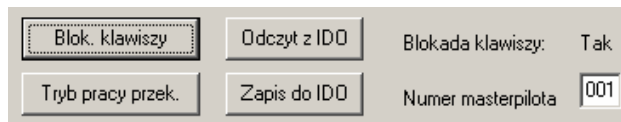

fig. 37
**Point 7.** To enable to option of buttons blockage in IDO-500A, press the Buttons blockage button so that the Buttons blockade field changes into Yes. An example is shown on the fig.37.